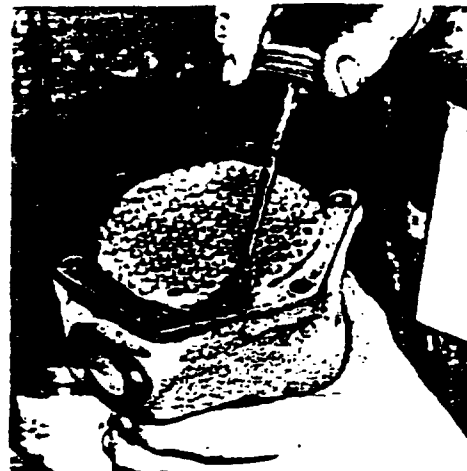

Figure 2-301. Applying Gasket Sealer on Bundle
7. Spread Perma-Tex gasket sealer on bundle end. See Figure 2-301.